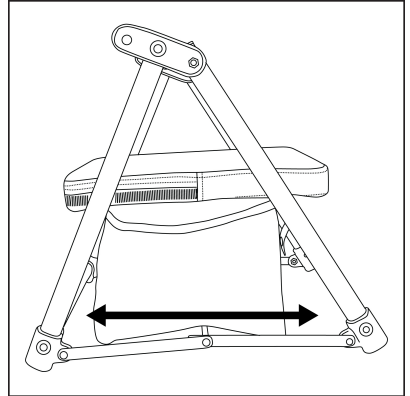

Fig. 3
2. Ensure that your Rollator is fully extended, and check that the side bars are straight and level (Fig. 3).